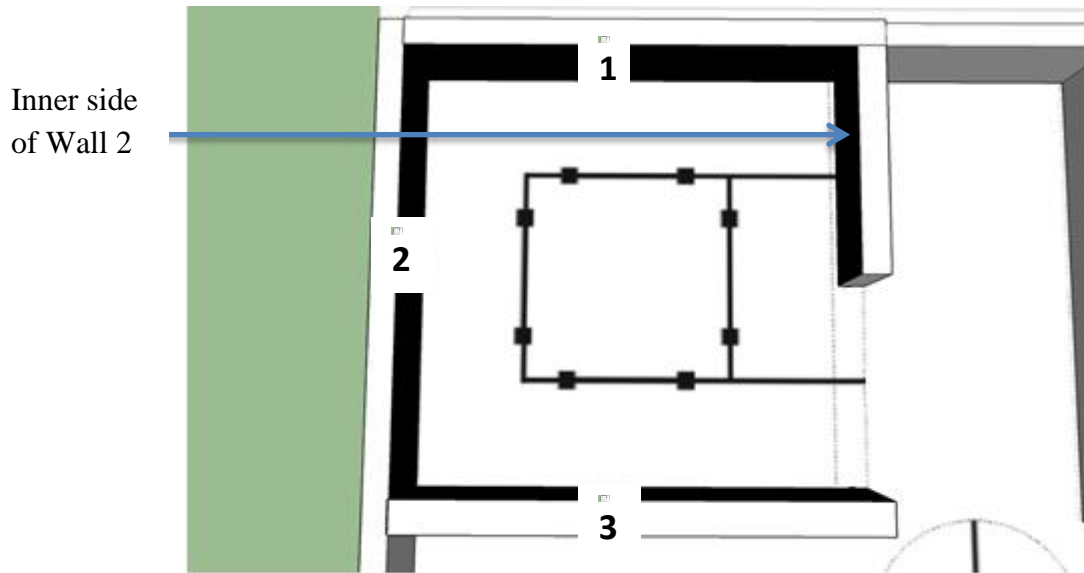

Figure 5: Room with three inner sides
- Line the three inner fixed sides (as shown in Figure 5) of all the rooms with black chart paper.
- Next line the inner side of all the Wall 2 sections with black chart paper (as shown in Figure 5).